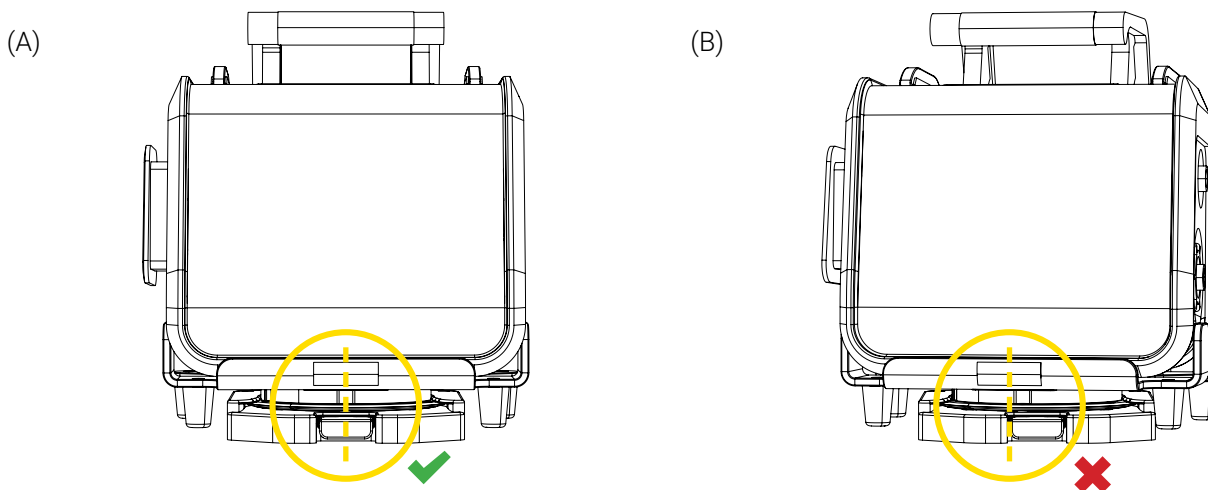

Figure 10: Removal position
1. Rotate the medical device until the Technimount logo on the bracket is aligned and centered with the quick release button on the Standard Surface Base (Figure 10).